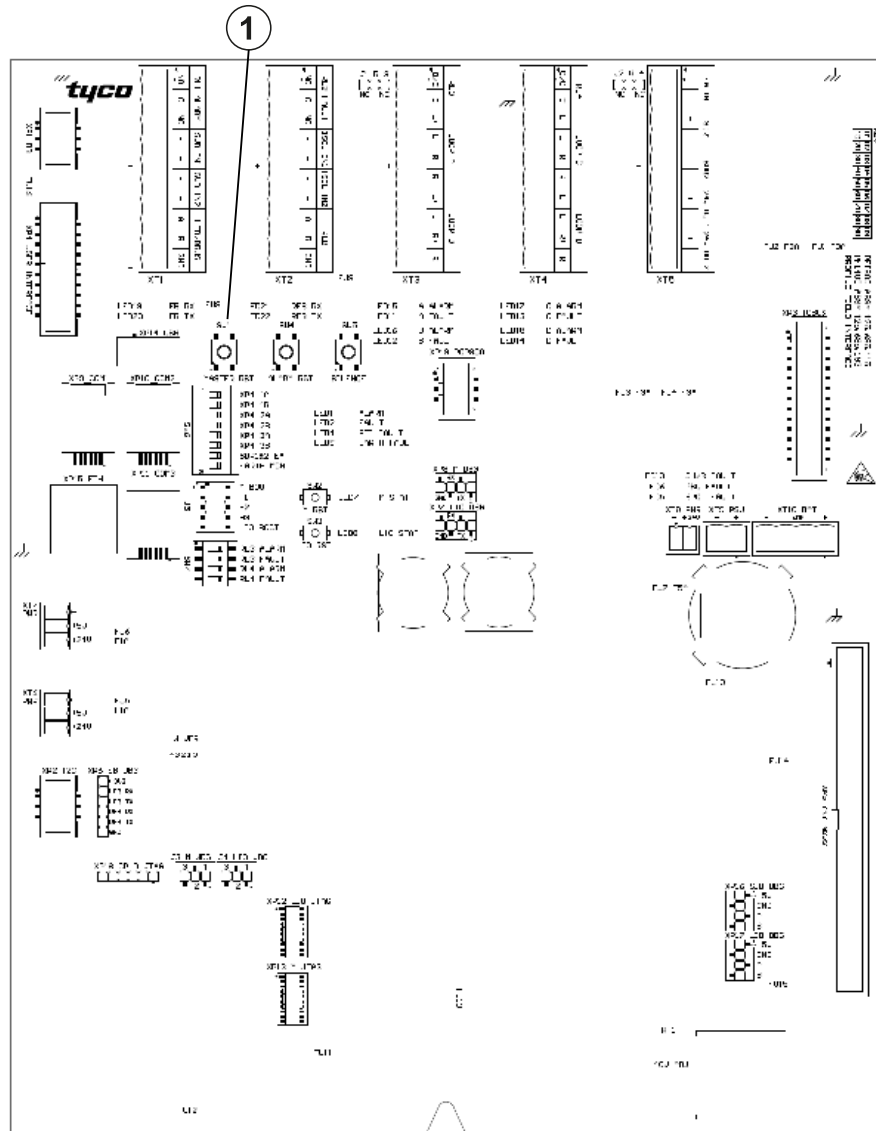

Fig. 4: PFI800
- 1 Press the master reset button marked MASTER RST on the PFI800 board. See Fig. 4.